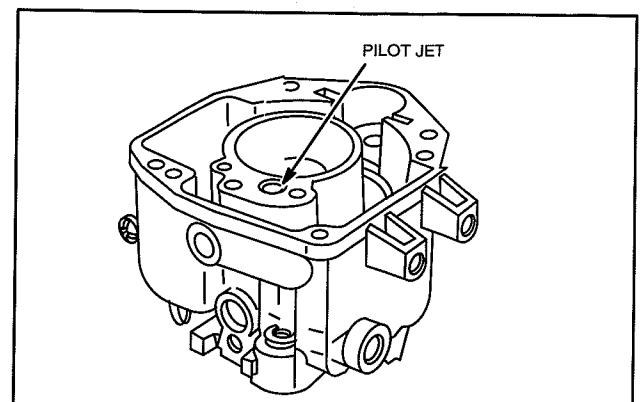

Fig. 91 – Install Pilot Jet
9. Install pilot jet using screwdriver, Tool #19061, Fig. 91.